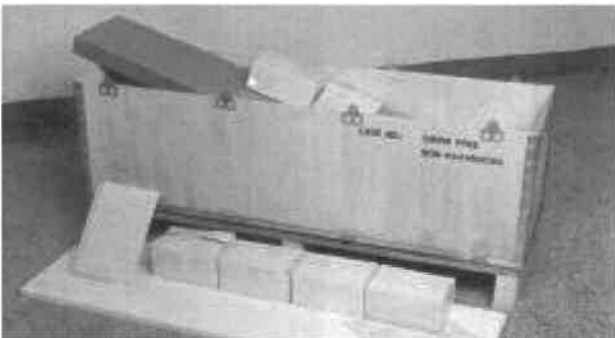

Figure 1: Battery accessories case
- a) remove the lid of the battery accessories case and take out the different item packs, see Fig 1. Consult the battery assembly drawing to become familiar with the different accessory items and the polarity orientation of the finally assembled modules.